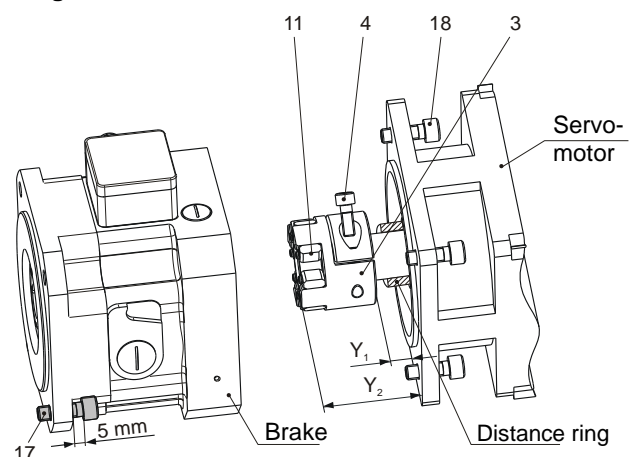

Fig. 26
3. Screw in the cap screws (17) for the brake/machine (leave approx. 5 mm stroke, see Fig. 26).
4. Adjust the output-side shrink disk hub (1) using axial movement to the installation dimension "W" acc. table in section **4.5**. We recommend an adjusted distance ring as a fixed limit stop.
5. Tighten the cap screws (2) stepwise (in 3 to max. 6 tightening sequences) and cross-wise to the tightening torque acc. table in section **4.5**.
6. Pull the brake back to contact on the screw heads (17) (fixing screws for brake/machine), then push them again against the machine (reason: release of the rotor (22)).
7. Tighten the cap screws (17) for the brake/the machine.